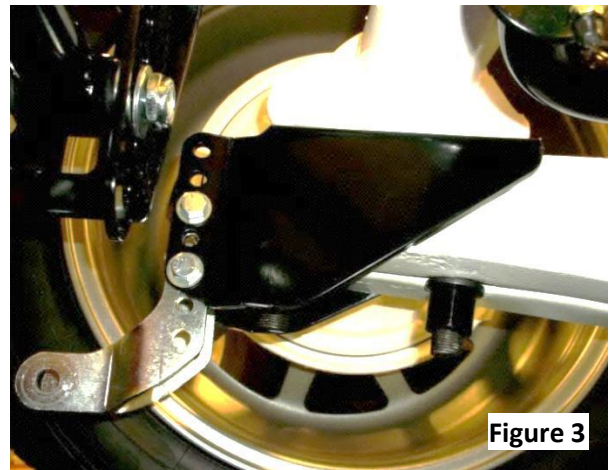

Figure 3
6. Install the truck arm saddle brackets between the axle and the truck arm and reinstall the truck arm on the axle. **Note: New U-bolts are recommended.** The truck arms may need minor trimming to allow the brackets to sit flat on the truck arms. Repeat on the other side of the vehicle. See **Figure 3**. Torque the U-bolt nuts to 145 lb. ft.
7. Install the shock mount brackets on the insides of the truck arm saddle brackets with the 3/8" x 1" bolts with a washer under the head of the bolts and the nuts as shown in **Figure 3**. The shock mount position can be adjusted up to raise the vehicle or lowered to lower the vehicle ride height, but there should be one at least open hole between the mounting bolts. Torque the bolts to 30 lb. ft.